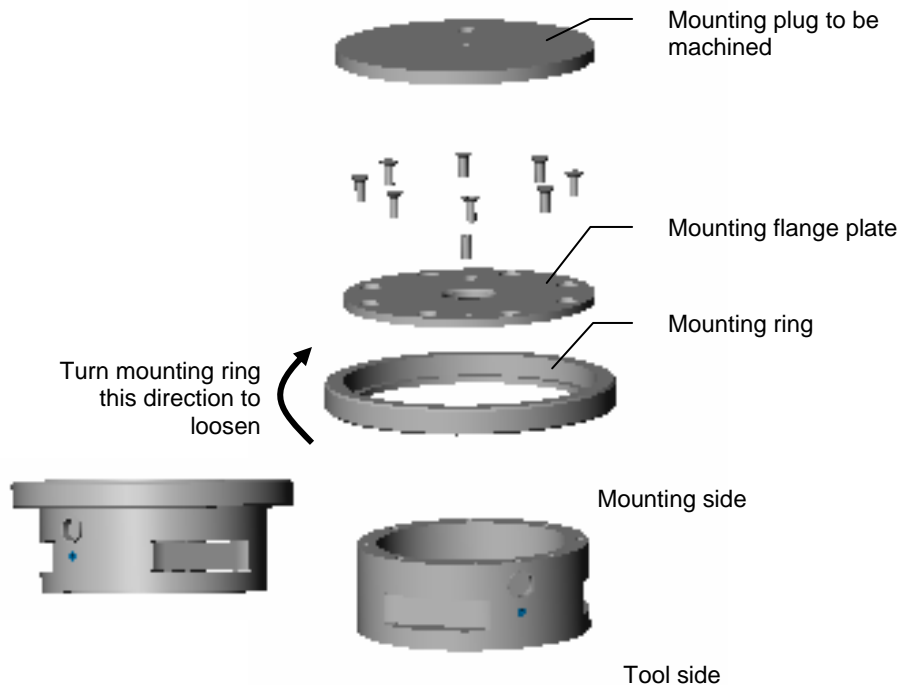

Figure 2.2—Using the mounting ring-plug adapter
- Machine the mounting plug for attaching to your robot (or other device). Mounting plug dimensions are shown with the transducer in *Section 4—Transducer Specifications* (see *Figure 2.2*).